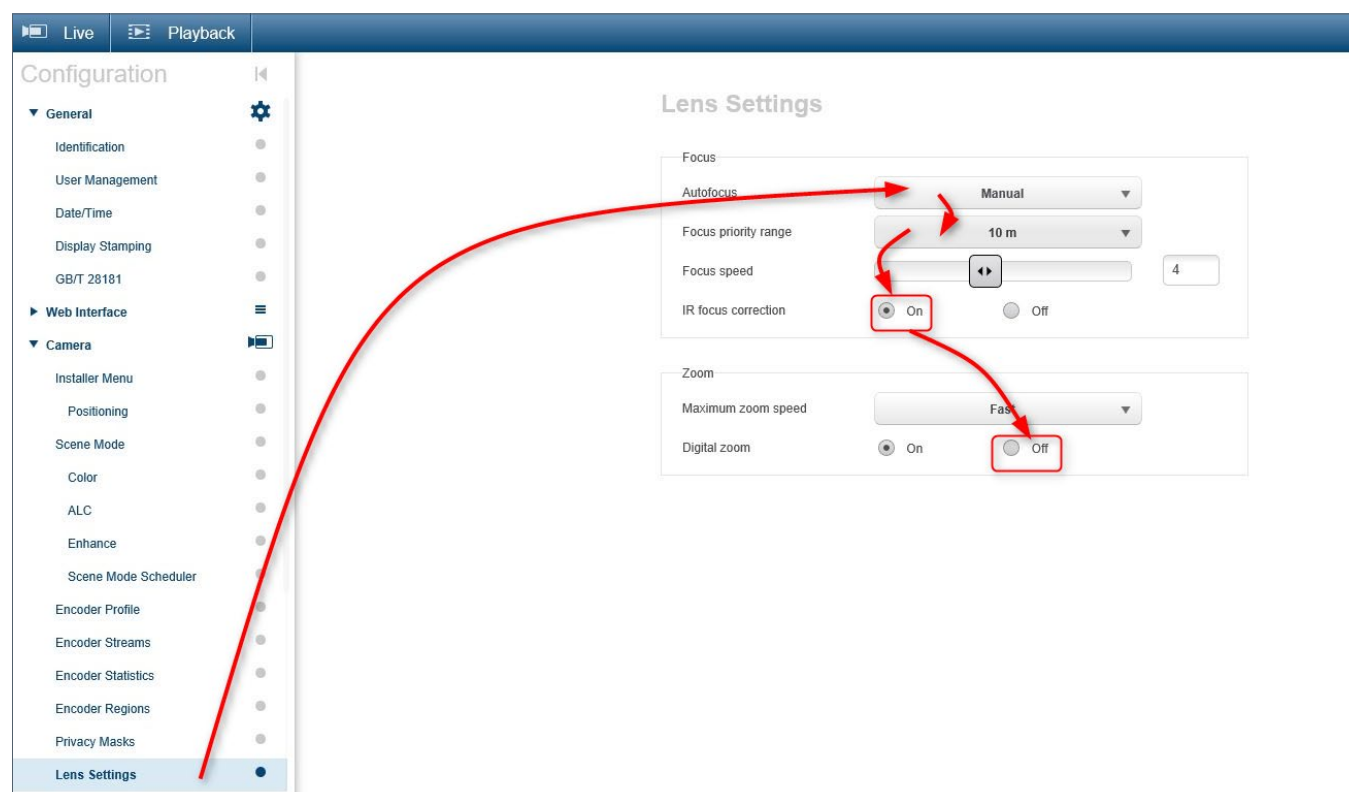

Figure 4
- In the Camera menu select Lens Settings (see figure 4).